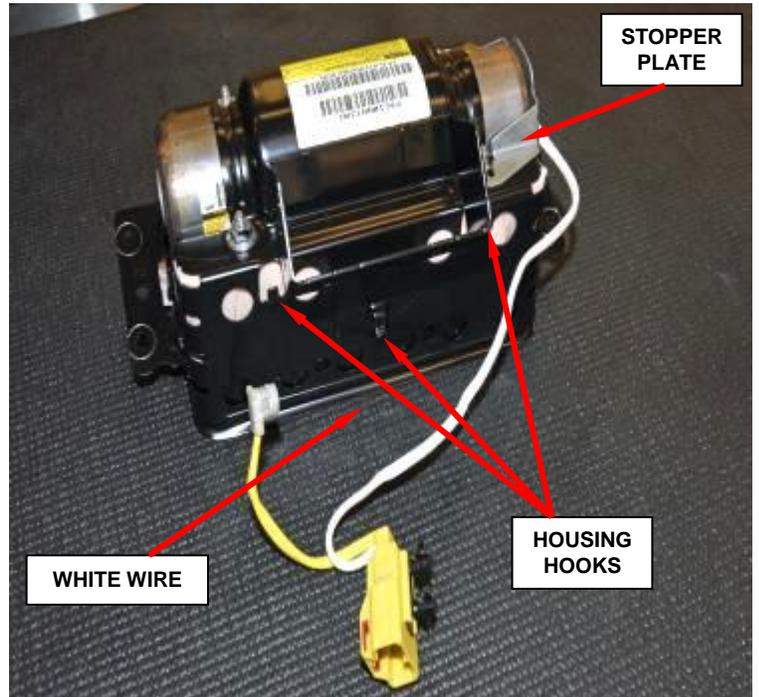

Figure 50 – White Wire Harness
- d. Release the white wire from the three housing hooks (Figure 50).
- f. Remove and save stopper plate from housing (Figures 50 and 51).